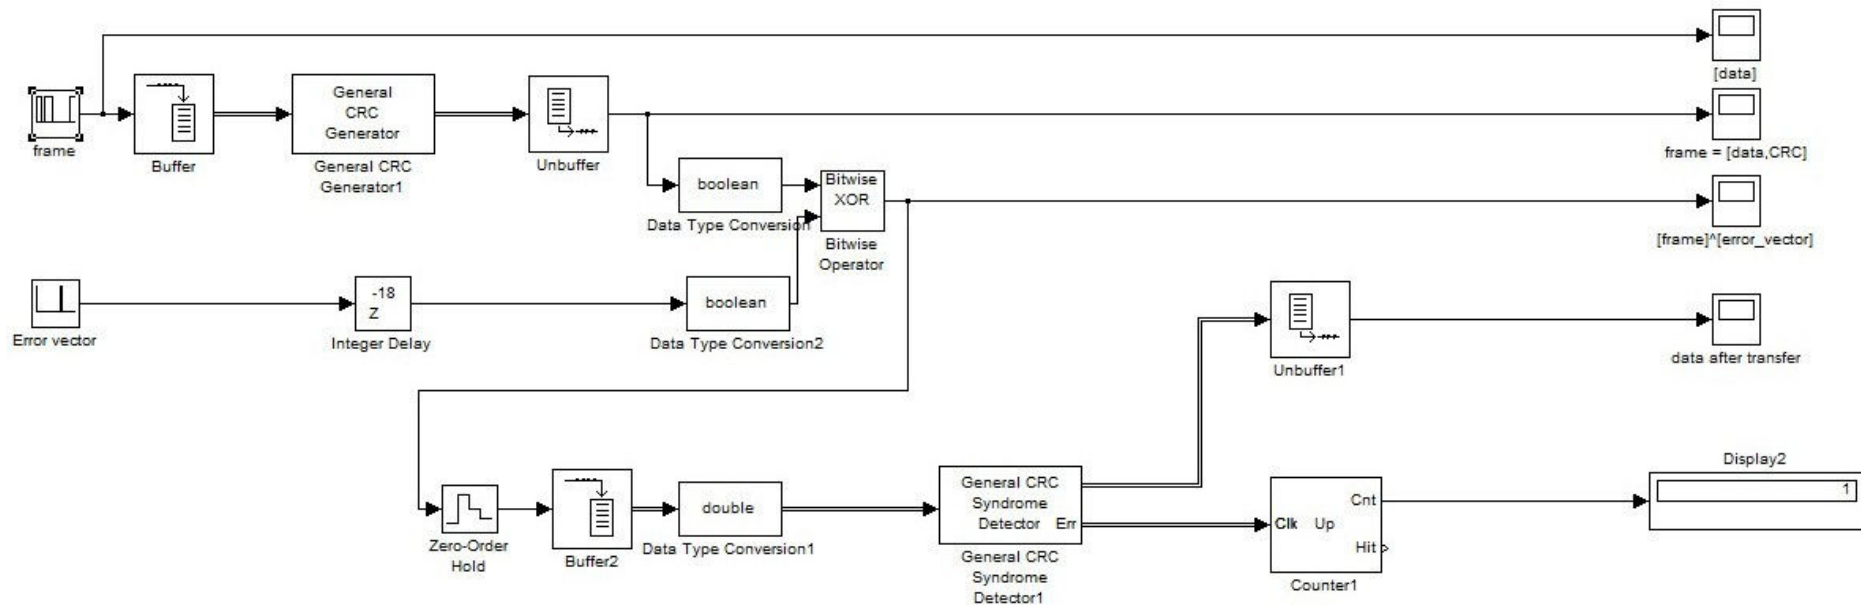

Figure 1. CRC evaluation simulation
2. Open the Matlab and the simulation schema in Fig. 1 (Plocha/crc/crc1.mdl)